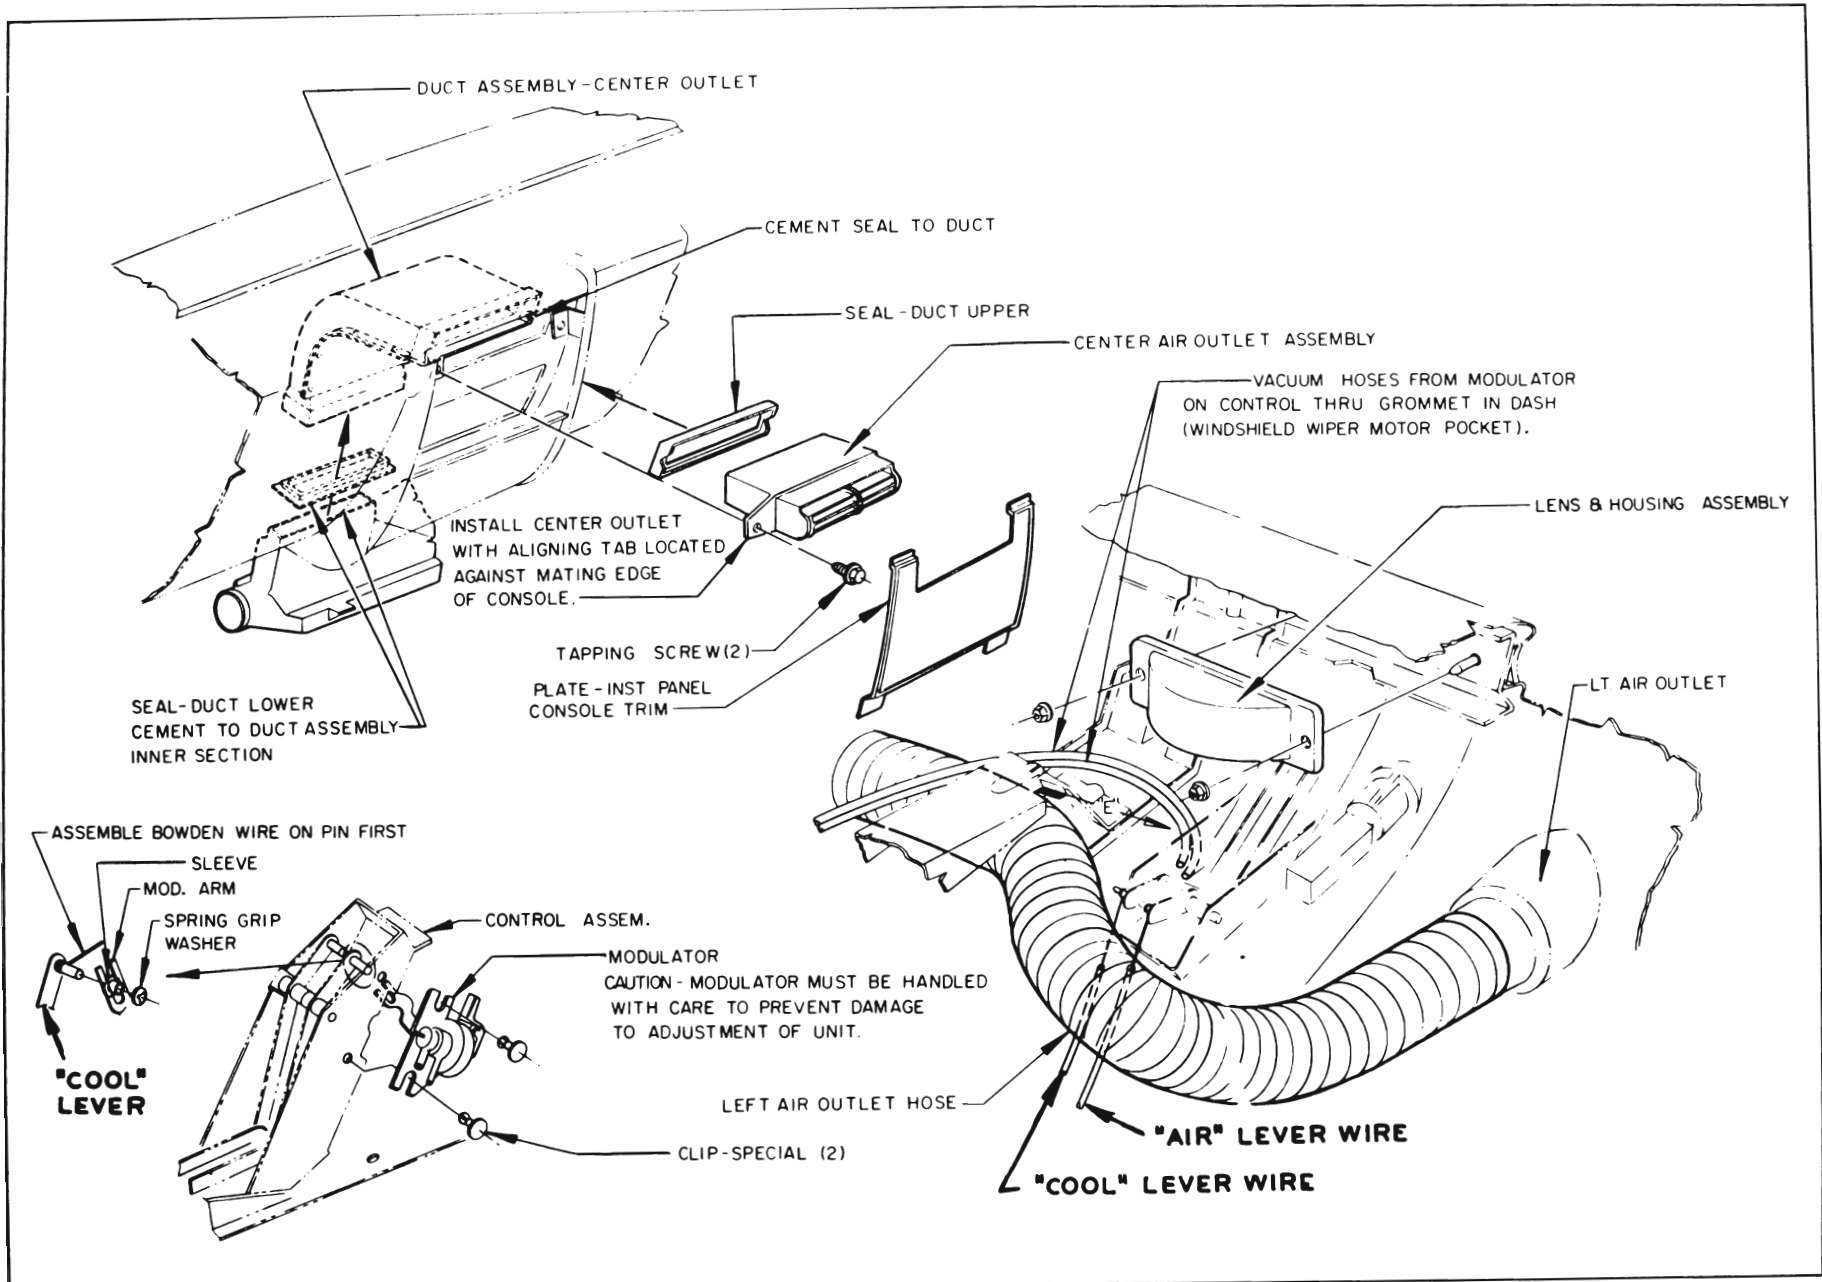

Figure 11-71—Center Outlet and Control Wire Installation
4. Center Outlet. Figure 11-71 shows the installation of the center outlet.